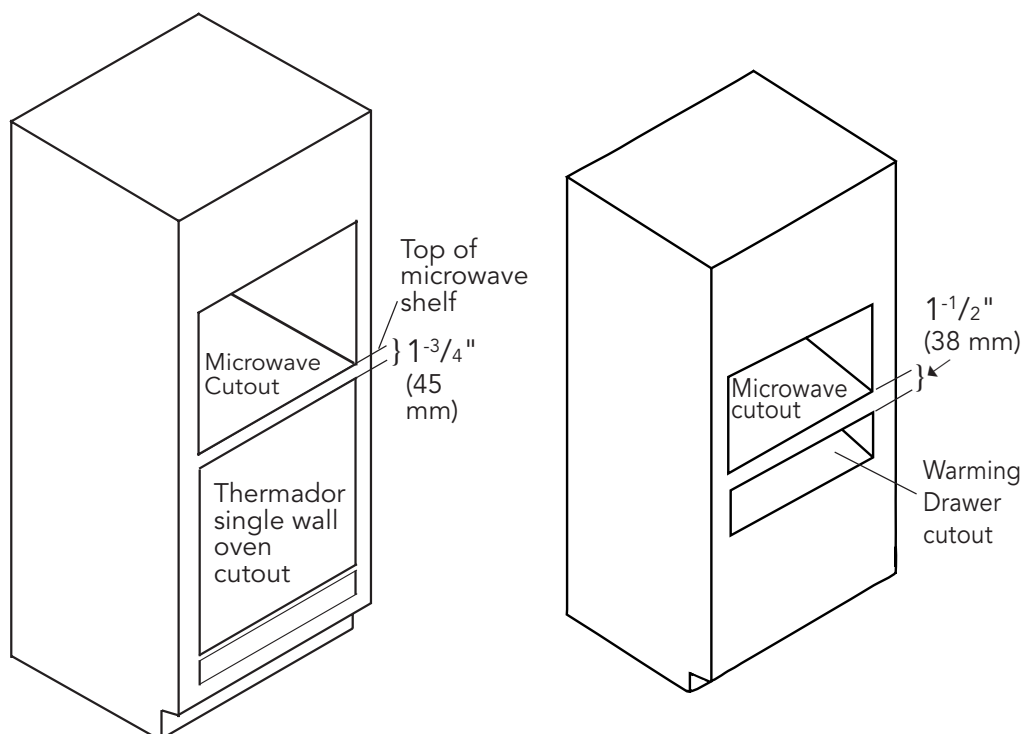

Figure 2
- Your microwave oven can be installed into a cabinet or wall by itself or above any of the following Thermador wall ovens: C271, C301, CM301, S301, SC301. Or, Thermador Warming Drawers WD27 and WD30 (see Figure 2).